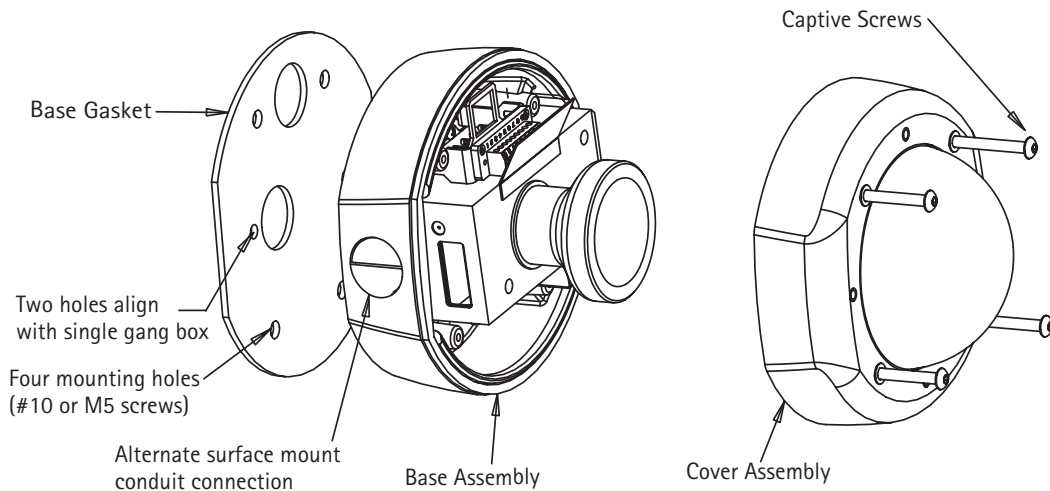

Figure 1 Dome Camera Assembly
1. Using the special Allen wrench provided, remove the 4 tamper resistant screws located on the cover assembly. The screws are captive and will remain with the cover. Refer to **Figure 1**.
Refer to Figure 1.